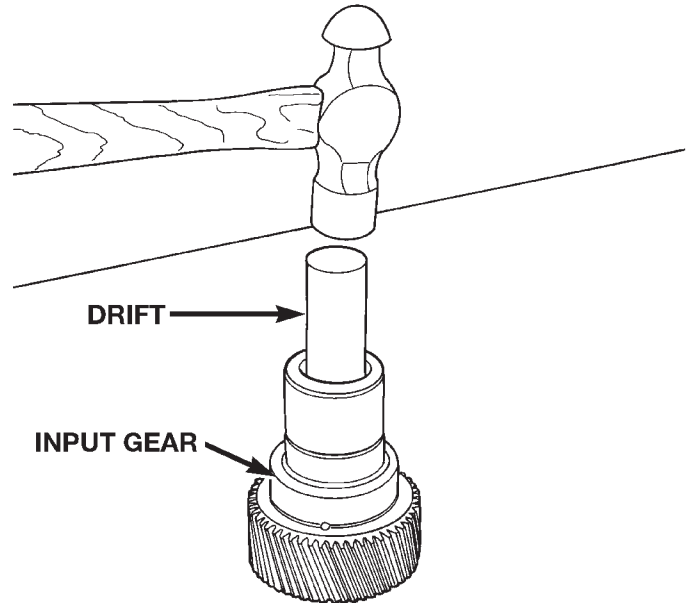

Fig. 51 Remove Input Gear Pilot Bearing
(13) Remove input gear pilot bearing by inserting a suitably sized drift into the splined end of the input gear and driving the bearing out with the drift and a hammer (Fig. 51).